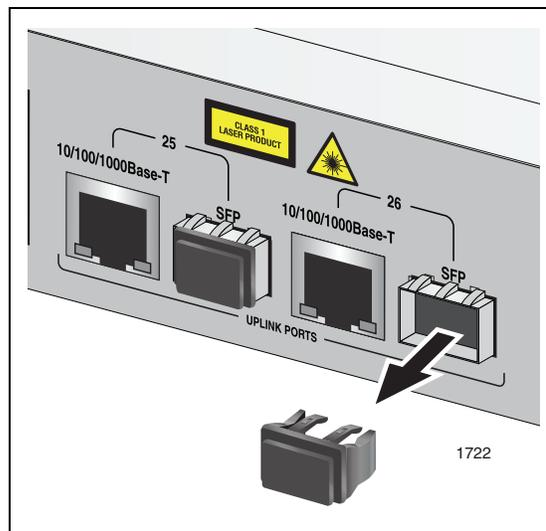

Figure 14. Removing the Dust Plug from the SFP Slot
2. Remove the dust plug from the SFP slot, as shown in Figure 14.